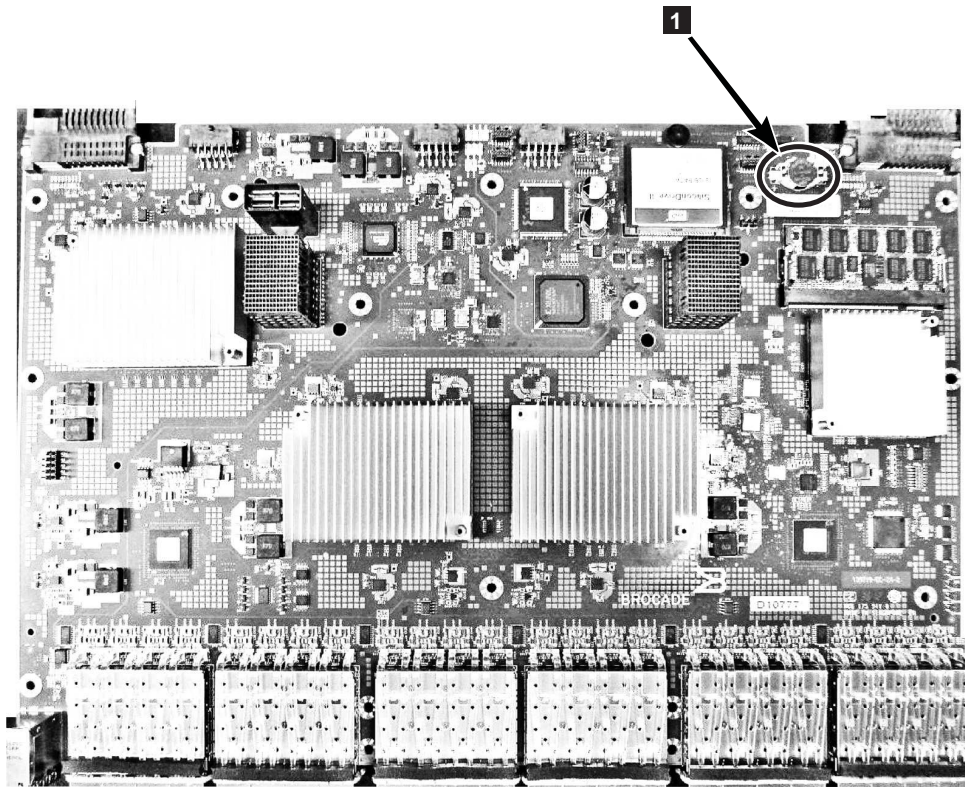

Figure 58. Location of battery holder
5. On the main circuit board, go to location **1** shown in Figure 58 on page 194 and remove the BR1225 battery from the holder.